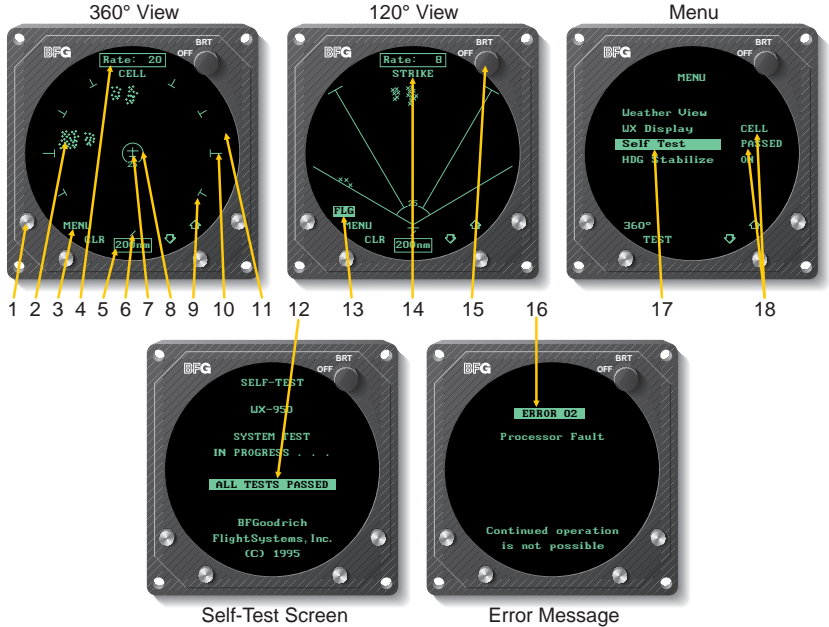

Figure 3-1. Controls and Indicators
Figure 3-1 calls out all the major controls and indicators on the *Stormscope*® model WX-950. Table 3-1 is the legend for figure 3-1.
- From either of the two weather views (360° or 120°) press the MENU button. (See figure 3-1.)